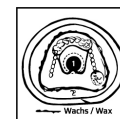

Figure 2
- Fix the model edge on the muffle base with adhesive wax (higher melting point) without any gaps. (Figure 2)